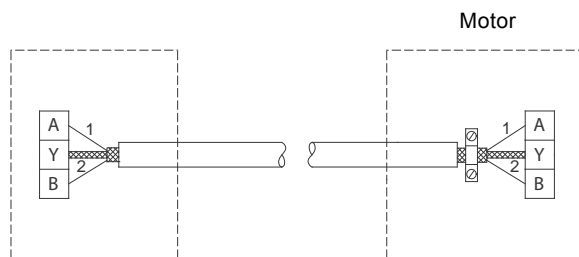

Fig. 16 Connection with screened 2-core cable
- If a screened 2-core cable is used in the existing installation, connect it as shown in fig. 16.